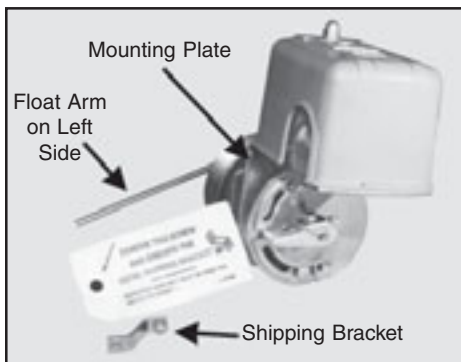

FIGURE 3—Float Switch
- B. Remove shipping brackets on float switches. Per instructions on tag attached to float switch, remove shipping bracket (See Figure 3) from each float switch as per manufacturer's instructions. The float switch have been factory set for maximum capacity of the receiver. Should an alternate setting be required, refer to the float switch manufacturer's instructions. If needed, reference Technical Articles section on the SHIPCO® website (www.shipcopumps.com) for detailed instructions on how to adjust a float switch: